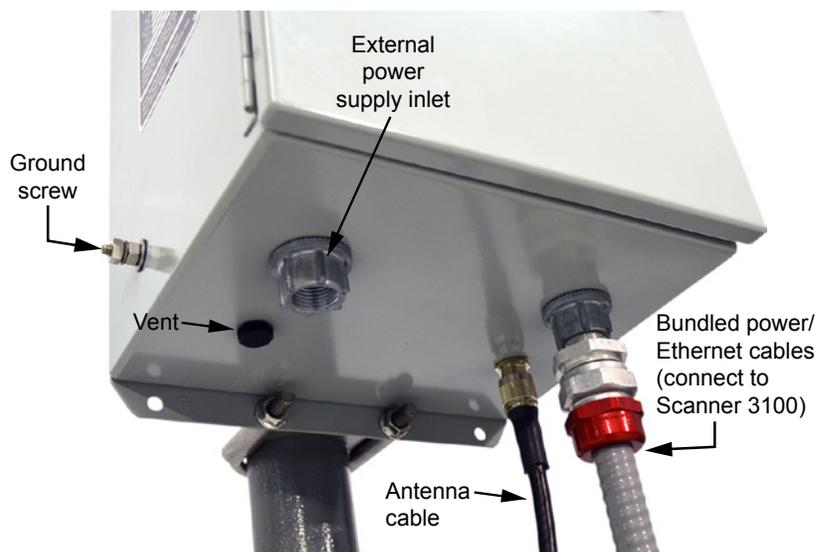

Figure 4.4—Exterior of WiFi box showing location of connectors and external ground screw
2. Connect a ground wire to the external ground located on the bottom left side of the WiFi box (Figure 4.4, page 69).
- a. Connect the black antenna cable to the antenna connection located on the bottom of the box behind the Ethernet connection hub as shown in Figure 4.4, page 69.
- a. Thread the external power supply wires through the conduit hub on the bottom of the WiFi box (Figure 4.4, page 69).